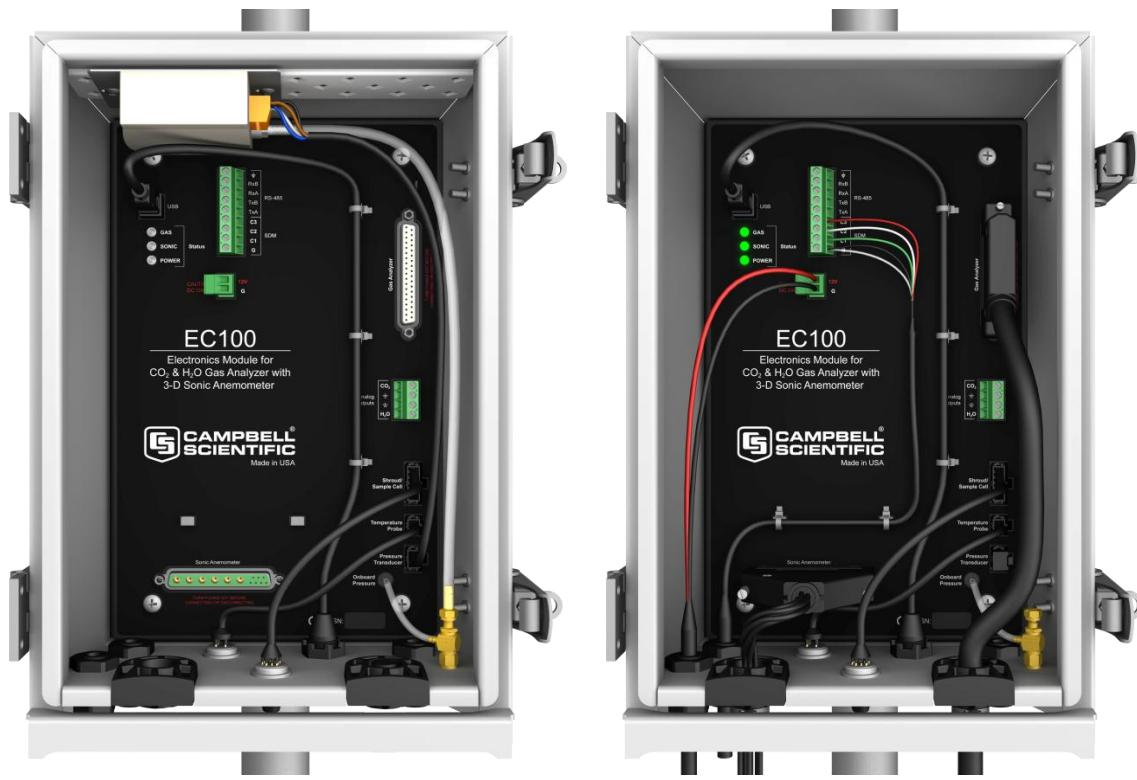

Figure 6-5. EC100 electronics front panel with enhanced barometer. At left, as received from Campbell Scientific. At right, all wiring and connections complete.
Figures 6-5, 6-6, and 6-7 show the EC100 electronics panel, the bottom of the EC100 enclosure, and sensor connections to the EC100, respectively. Refer to these figures during wiring and connecting.
1. Find the thicker black cable coming from the block of the IRGASON. This is the IRGASON gas-analyzer cable. Connect this cable to the EC100 electronics by removing the black-rubber cable entry plug on the bottom right of the EC100 enclosure. (This plug can be stored in the mesh pocket of the enclosure). Next, insert the cable entry plug that is attached to the cable into the vacant slot. Push the connector at the end of the cable onto its mating connector (labelled *Gas Analyzer*) and tighten the thumbscrews (see Figure 6-5). The gas analyzer cable is approximately 3 metres in length.
2. Connect the IRGASON sonic cable. Similar to (a), begin by removing the black-rubber cable-entry plug found on the bottom left of the EC100 enclosure. Insert the cable entry plug on the cable into the slot and connect the male end to the female connector labelled *Sonic Anemometer* on the EC100 electronics (see Figure 6-5). The sonic cable is approximately 3 metres in length.